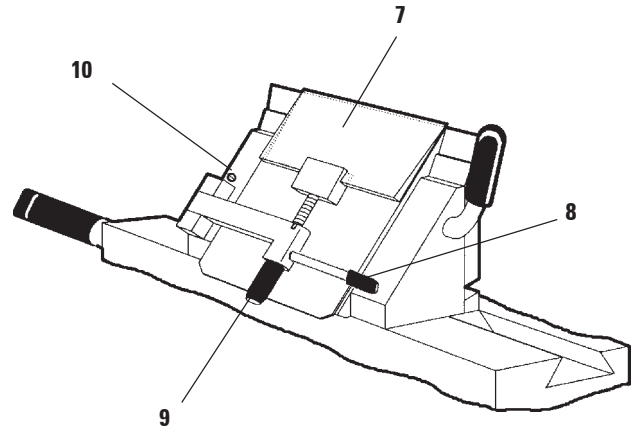

Fig. 20.2
- Loosen screw (10), hold the anti-roll guide at the grip (8) and align the front edge of glass plate parallel with the cutting edge of the blade.
- Retighten screw (10) after alignment.
- To raise the anti-roll plate (to move it towards the blade), turn the knurled knob (9, Fig. 20.2) counter-clockwise.
- To lower the anti-roll plate (to retract it from the blade), turn the knurled knob (9, Fig. 20.2) clockwise.
It is recommended to first preadjust it at a great section thickness (e.g. 10  $\mu\text{m}$ ) and then approach the required section thickness reducing the value in 5  $\mu\text{m}$  increments and slightly readjust the anti-roll plate in height with the knurled knob (9, Fig. 20.2).